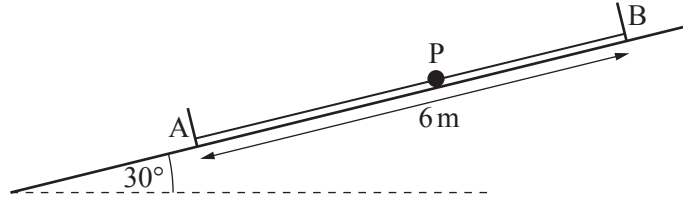

Fig. 3
- 3 Fig. 3 shows a smooth plane inclined at an angle of 30° to the horizontal. A particle P of mass 3 kg lies on the plane. One end of a light elastic string, of natural length 2 m, is attached to P and the other end is fixed to a point A. One end of a second light elastic string, of natural length 1 m, is attached to P and the other end is fixed to a point B. Both strings are made from material with modulus of elasticity 12.25 N. APB is parallel to the plane on a line of greatest slope, and the distance AB is 6 m.